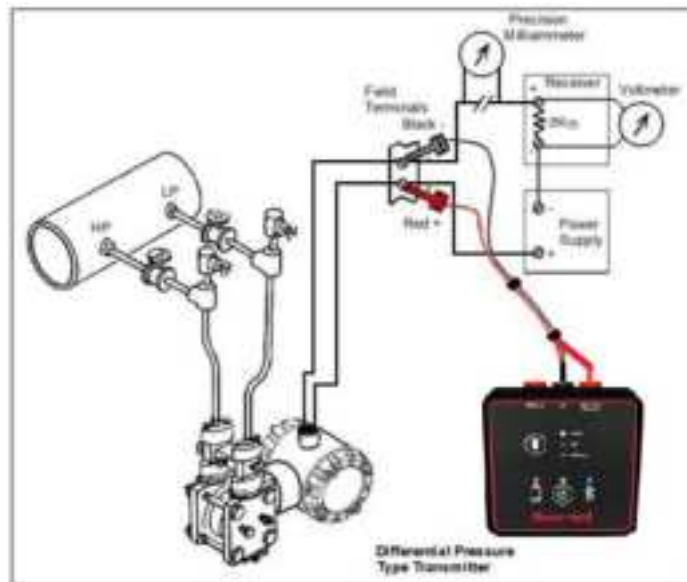

Figure 55 – ST 700 Basic Transmitter - Current Loop Test Connections
Loop wiring is connected to the transmitter by simply attaching the positive (+) and negative (–) loop wires to the positive (+) and negative (–) terminals on the transmitter terminal block in the electronics housing shown in Figure 55.
As shown in Figure 55 each transmitter has an internal terminal to connect it to earth ground. Optionally, a ground terminal can be added to the outside of the electronics housing. While it is not necessary to ground the transmitter for proper operation, doing so tends to minimize the possible effects of noise on the output signal and affords protection against lightning and static discharge. An optional lightning terminal block can be installed in place of the non-lightning terminal block for transmitters that will be installed in an area that is highly susceptible to lightning strikes.
1. See Figure 55 above, for parts locations. Loosen the end cap lock using a 1.5mm Allen wrench.
If your transmitter includes the optional lightning protection, connect a wire from the Earth Ground Clamp (see Figure 55) to Earth Ground to make the protection effective. Use a size 8 AWG or (8.37mm²) bare or green covered wire for this connection.